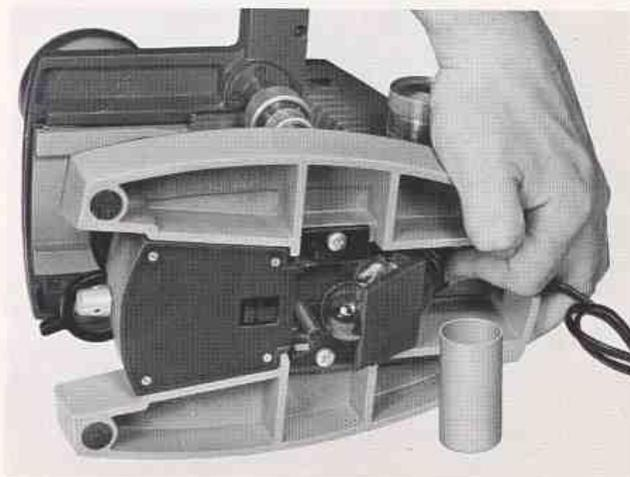

Figure 26. Changing Lamp in "In-Base" Illuminator
- b. **Changing Lamp** (See figure 26). The lamp is easily replaced by tilting the microscope over on its side, swinging the lamp socket out on its pivot as illustrated. The lamp is of the pre-focus type and is removed by pushing down and turning slightly counterclockwise to disengage the slots from the pins. A special tool, AO #1036-856, consisting of a fiber tube with a rubber insert, is provided with the microscope for removing the lamp.